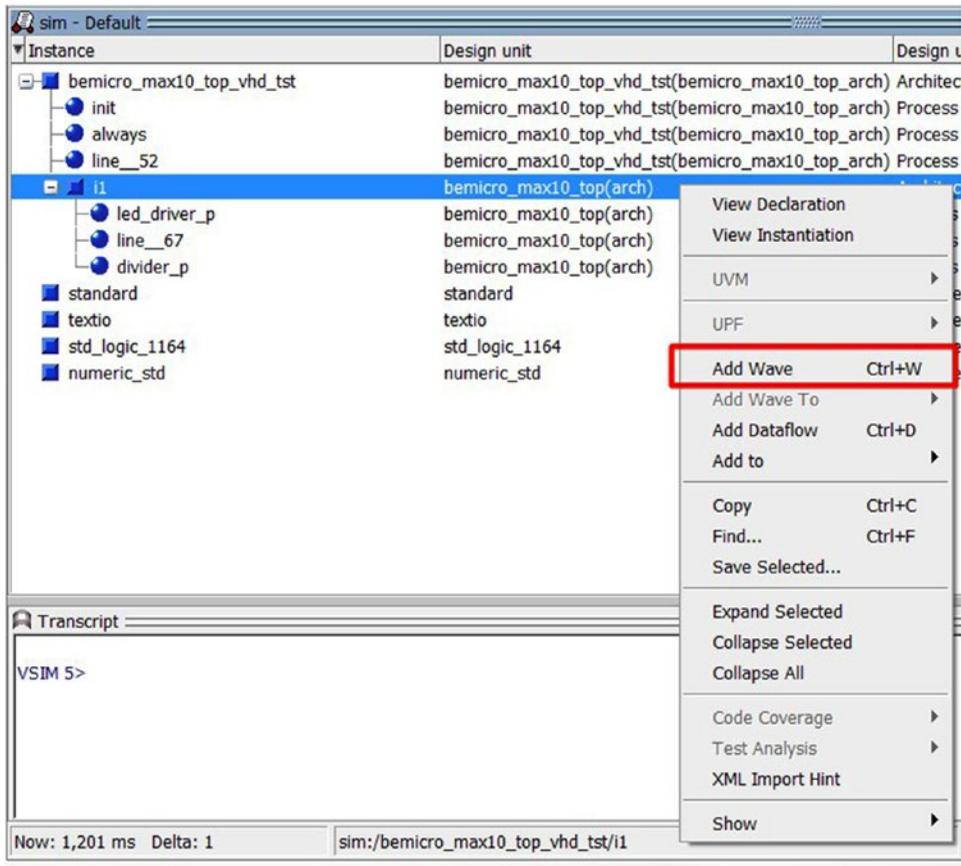
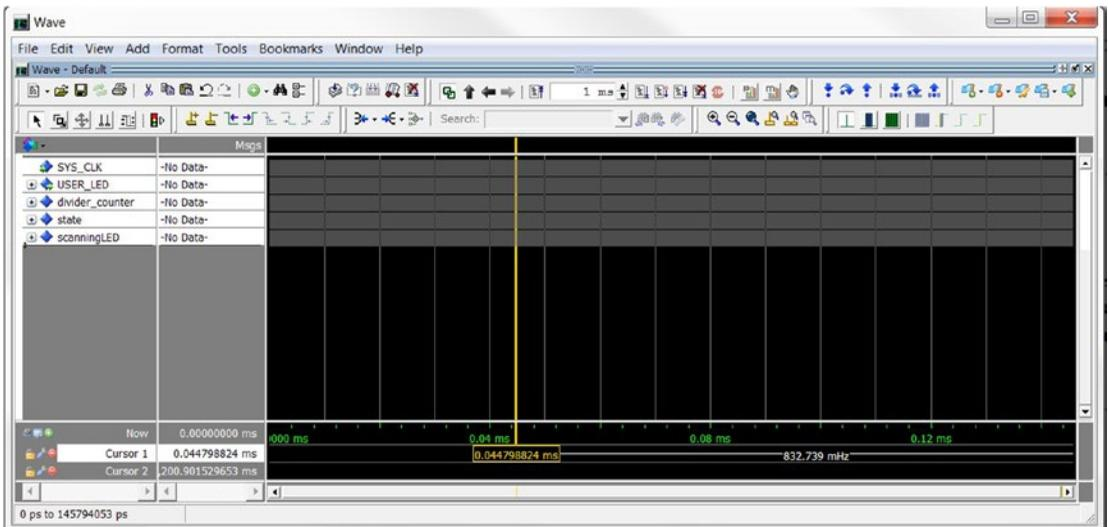

Figure 4-46. Add all the signals into a Wave display
Figure 4-47. Wave window
- Right-click the Instance `i1` or Design unit: `bemicro_max10_top(arch)`, and click **Add Wave**. Figure 4-46 shows the location. It will pop up a Wave window like Figure 4-47. You can also trigger it by entering the following script in the Transcript box: